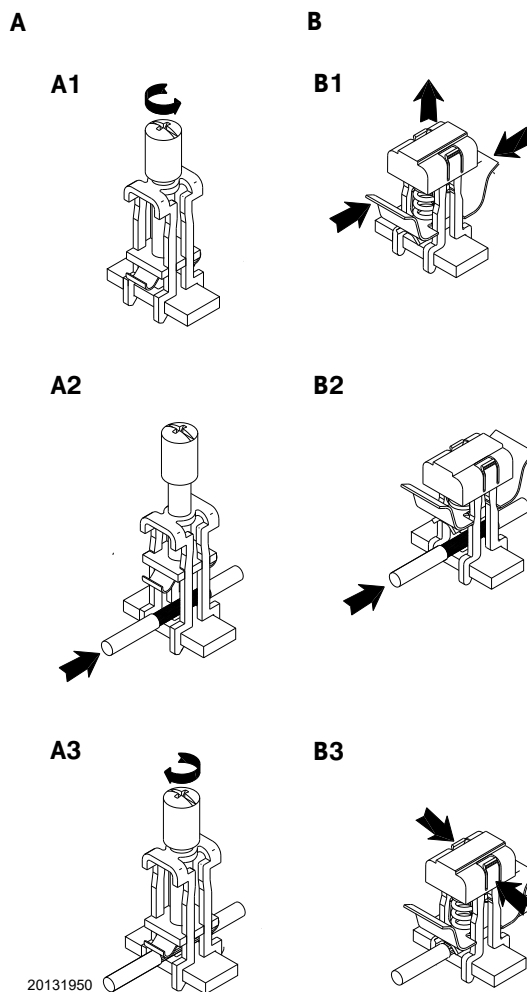

Fig. 34
- unscrew the screw until space is created for inserting the shielding of the shielded cable A1)(Fig. 34);
- pull the indicated tabs upwards and lift until locked in the open position B1)(Fig. 34);